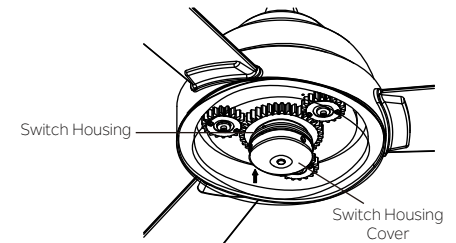
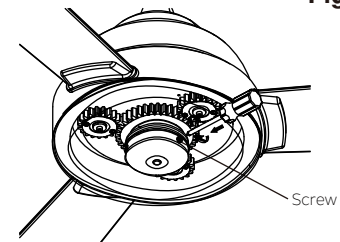

Fig. 27
Fig. 28
Step 5. Attach the switch housing cover to the switch housing and securely tighten with three (3) screws previously removed. (Fig. 27 & Fig. 28)